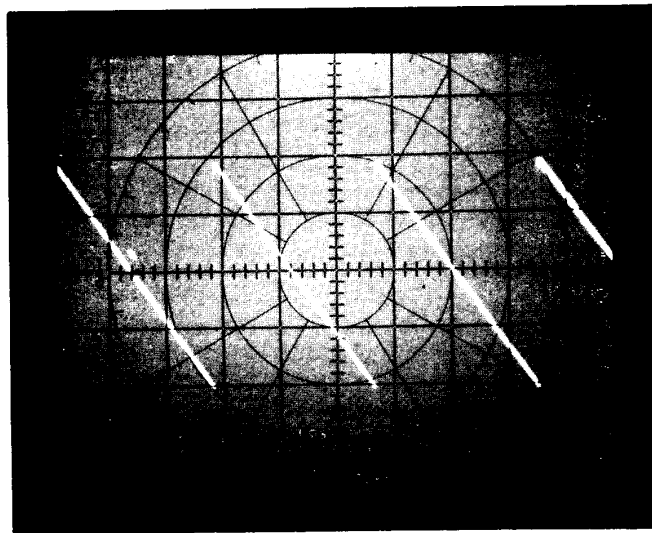

Figure 5-40. Oscilloscope Display for Reference Adjustment
- e. Adjust TUNING to place the marker at the lowest frequency at which the trace crosses the center graticule line. The trace should appear as in Figure 5-40.